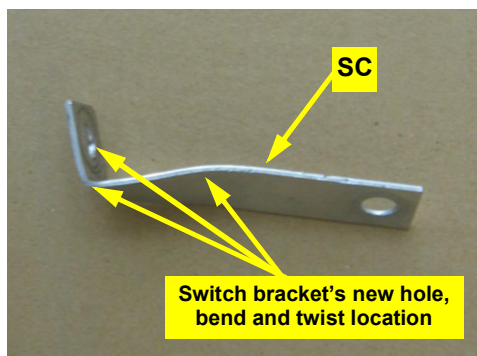

Figure 1b: Drilled, bent and twisted switch bracket
- b. Drill an 11/32" hole in switch bracket **SC** at the opposite end to the pre-drilled switch hole. Put a 90° bend in the bracket near the new hole and a slight twist approximately half way between the bend and the pre-drilled end (Figure 1b).